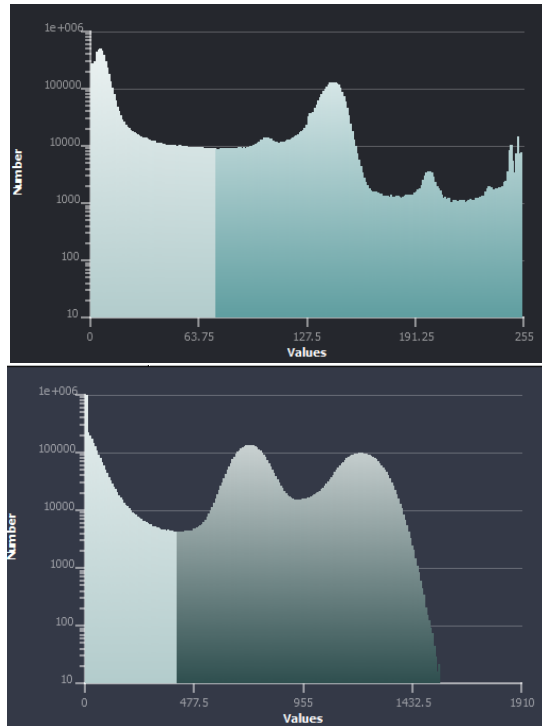

Figure 3.34: Intensity Range Partitioning Histogram
- Press the *Show range distribution* button to display the data histogram, separated here in two regions/ranges as shown in Figure 3.34.